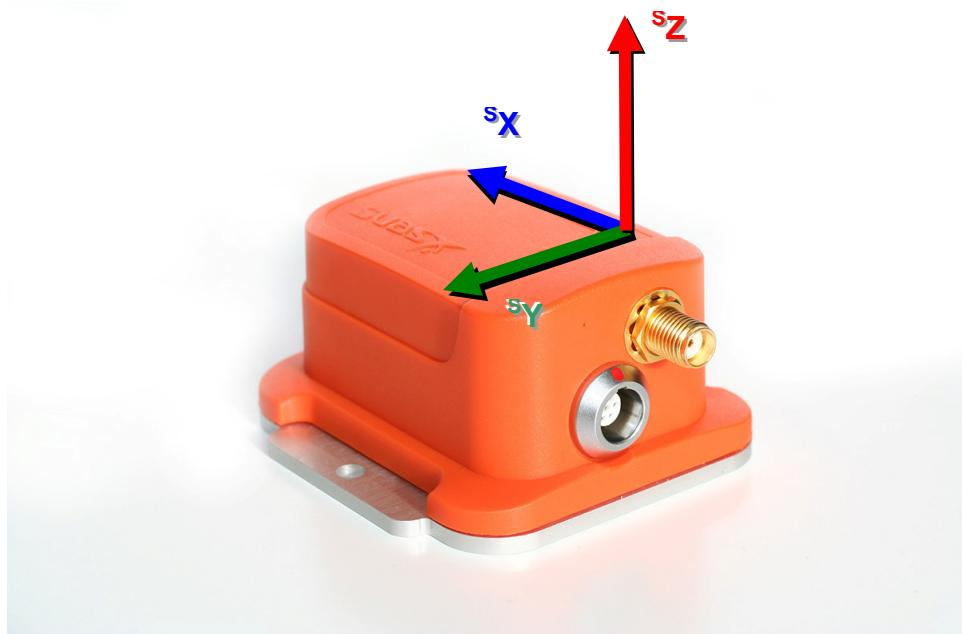

Figure 1 MTi-G with the default sensor-fixed co-ordinate system overlaid (**S**).
All calibrated vector sensor readings (accelerations, rate of turn, magnetic field) are in the right handed Cartesian co-ordinate system as defined in figure 1. This co-ordinate system is body-fixed to the device and is defined as the sensor co-ordinate system (S). The 3D orientation output is discussed below in section 4.2.
The non-orthogonality between the axes of the MTi-G body-fixed co-ordinate system, **S**, is <0.1°. This also means that the output of 3D linear acceleration, 3D rate of turn (gyro) and 3D magnetic field data all will have orthogonal XYZ readings within <0.1° as defined in figure 1.